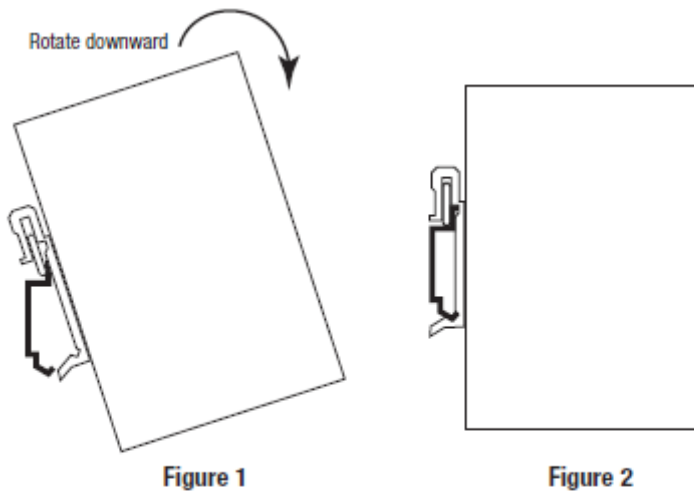

Fig. 3-1
- Snap the Media IES Switch firmly into place onto the DIN-Rail as shown in Figure 3-1.